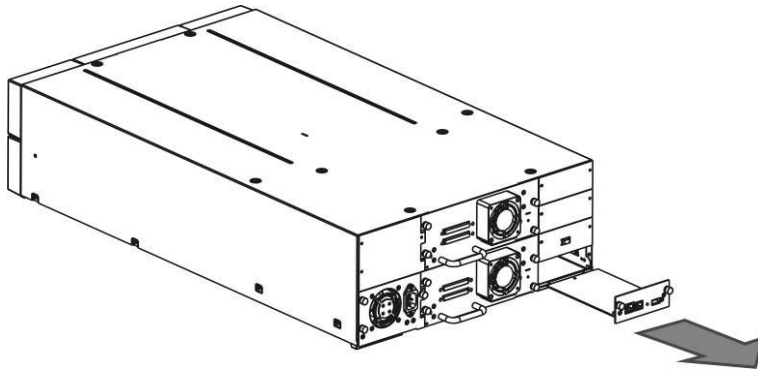

Figure 145 Remove the library controller
5. Pull the library controller straight out of the library as shown in **Figure 145**.